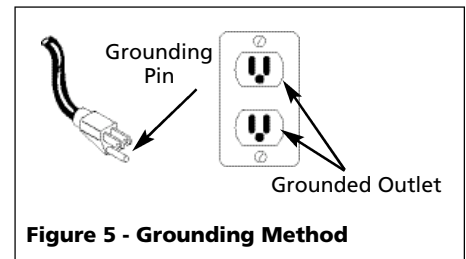

Figure 5 - Grounding Method
- This product is for use on a nominal 120 volt circuit and has a grounding plug that looks like the plug illustrated in Figure 5. Make sure the product is connected to an outlet having the same configuration as the plug. This product must be grounded. In the event of an electrical short circuit, grounding reduces risk of electrical shock by providing an escape wire for electric current. This product is equipped with a cord having a grounding wire with an appropriate grounding plug. Plug must be plugged into an outlet that is properly installed and grounded in accordance with all local codes and ordinances.